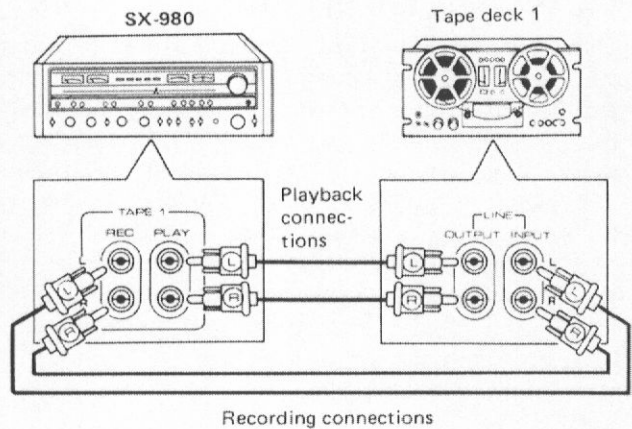

Fig. 4
The receiver is provided with two sets of recording (TAPE REC) output jacks and two sets of playback (TAPE PLAY) input jacks. Connect each of the jacks in the following way using the connecting cords which come with the tape deck. The upper row of jacks is for the left channel (L) and the lower row for the right channel (R) (Fig. 4).